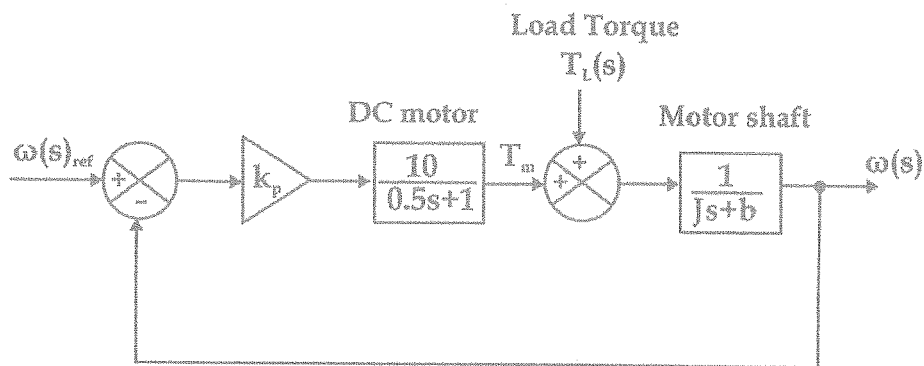

Figure Q1(b)
- b) You are required to design a simple speed control system of a dc motor as shown in Figure Q1 (b). The motor is running at no-load with negligible load torque.
- c) When the dc motor shown in Figure Q1(b) is running a load with 2 Nm load torque.